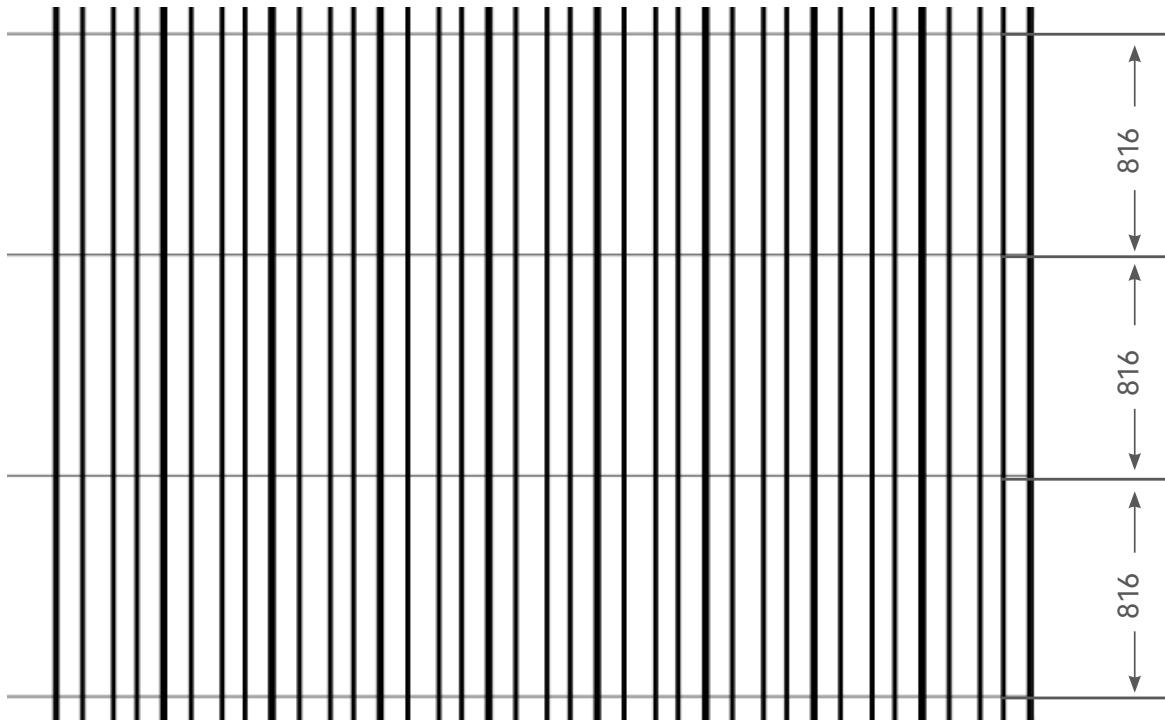

FIGURE 24
① First determine the installation position of the clamps, then carry out the snapline as the installation axis, the centre line of each row of clamps should be $816\pm 2\text{mm}$ apart, note that the snapline is at an angle of 90 degrees to the rib of the colour steel tile (Figure 24)